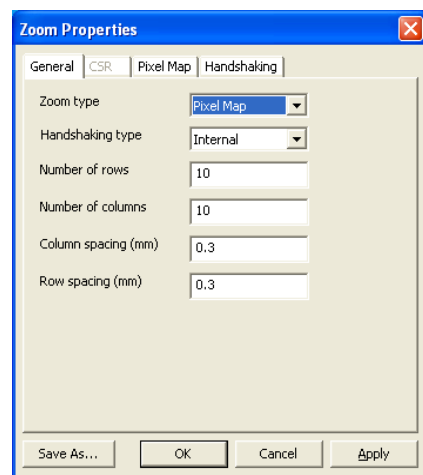

Figure 7 Pixel Map General Settings
1. Choose the zoom type in the **General** tab (see Figure 7):